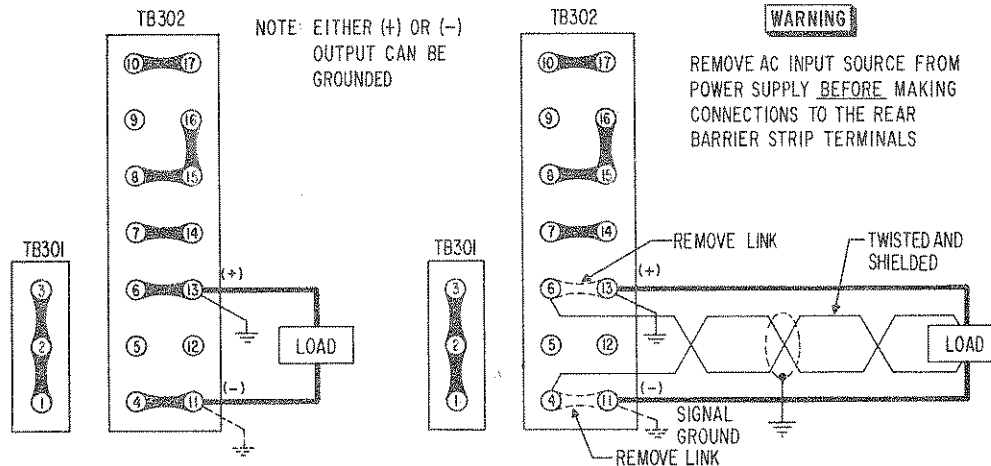

FIG. 3-4 LOAD CONNECTION WITH AND WITHOUT ERROR SENSING.
3-13 LOAD CONNECTION. The load may be connected to the front or the rear output terminals as shown. Specified d-c performance is measured at the error-sensing terminals (4)–(6). Front terminal connection and remote load operation requires, therefore, the use of error sensing as shown in FIG. 3-4. A twisted, shielded pair of sensing wires is connected to the rear sensing terminals and terminated directly at the load. The shielded error-sensing leads must be insulated to the shield for (at least) the maximum output voltage of the power supply. Specified d-c performance is now available directly at the load.